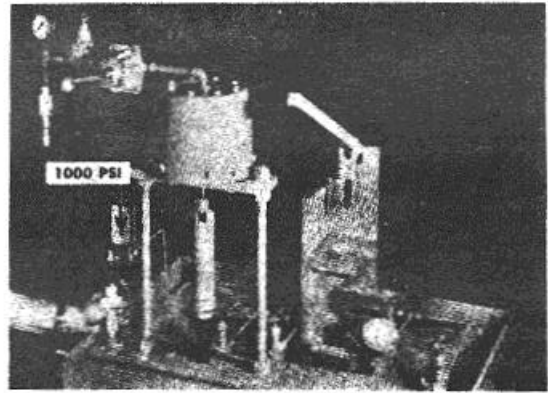

Figure 5-1. Checking injector for leakage a plunger
3. Mount injector in ST-272 injector test stand, Fig. 5-1, with the cup in the bronze seat and with plunger lifted 045 inch off its seat. Use same manner as for disc type injectors on ST-272.